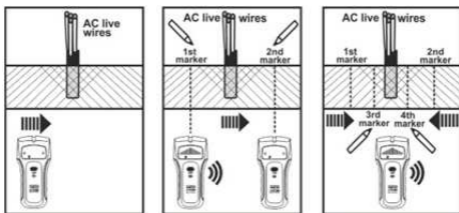

Fig. 4: Scanning of AC live wires
4. Hold the instrument in the lower part and move it slowly on the surface from left to right (see Fig.4 - left part)
5. When the central bar is shown on the display (see Fig. 4 – middle part) the instrument emits a continuous sound. Stop the instrument and mark the initial edge of the object on the surface (1st marker)
6. Continue the search scan along the surface until the graphic bar disappears and the sound stops (see Fig.4 - middle part)
7. Stop the instrument and mark the 2nd marker on the surface (see Fig.4 - middle part)
10. Mark the surface with the 3rd marker and the 4th marker (see Fig. 4 - right part)